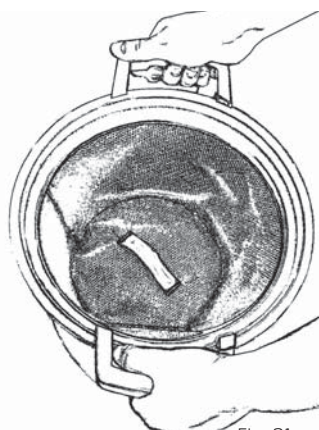

Fig. 21
2. Do not remove the filter from the container. Instead, give the filter a light shaking inside the container to loosen dust from the filter allowing it to fall into the container, Fig. 21.